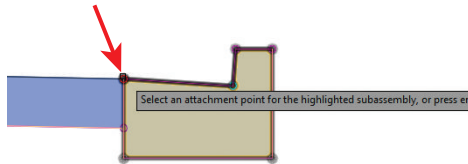

FIGURE 9.11 Choosing the attachment point for the curb and gutter subassembly
4. In the upper-right viewport, click the right-lane subassembly. When prompted to select an attachment point for the highlighted subassembly, click the upper-left point of the curb and gutter, as shown in Figure 9.11